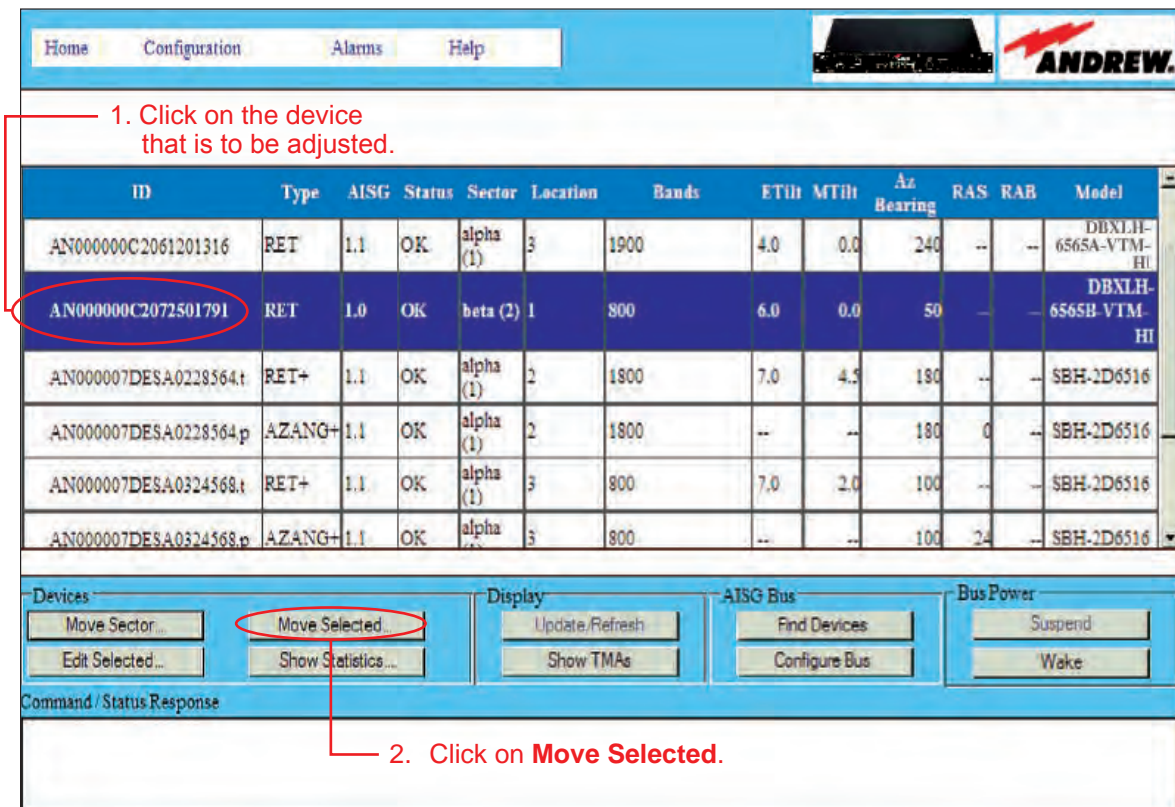

Figure 13-1. Selecting Device To Be Adjusted.
1. From the controller's main interface screen, select the device to be moved (Figure 13-1).
2. Click on **Move Selected** (Figure 13-1).